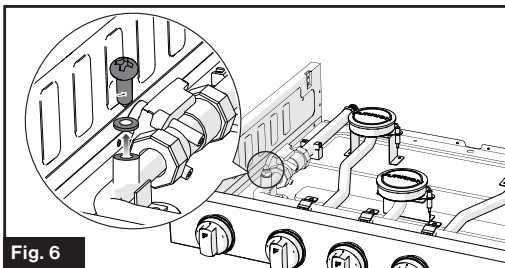

Fig. 6
2. Remove the Screw with the sealing gasket from the pressure test port on the range. (Fig. 6)